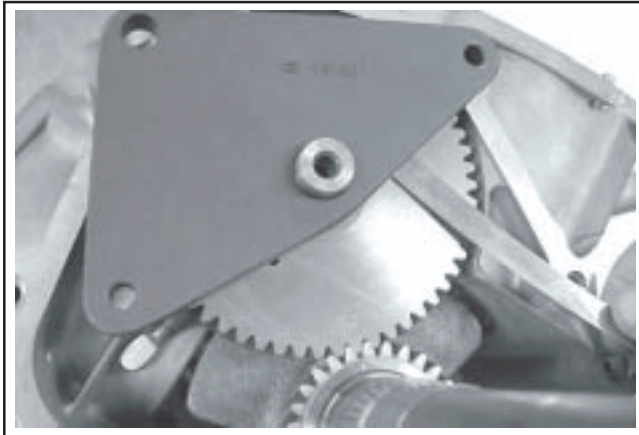

Figure 11-12. Checking Camshaft End Play with Tool.
3. Apply pressure on the end play checking tool (pushing the camshaft toward the crankshaft). Use a feeler gauge to measure the end play between the shim and the end play tool. See Figure 11-12. The camshaft end play should be **0.076/0.127 mm (0.003/0.005 in.)**.